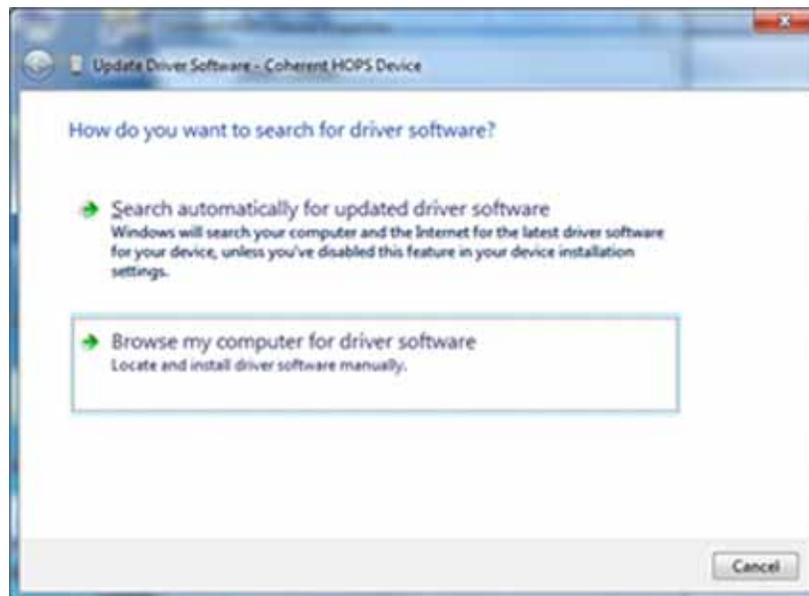

Figure 4-11. Browse My Computer
5. Select **Browse my computer for driver software** (see Figure 4-11).